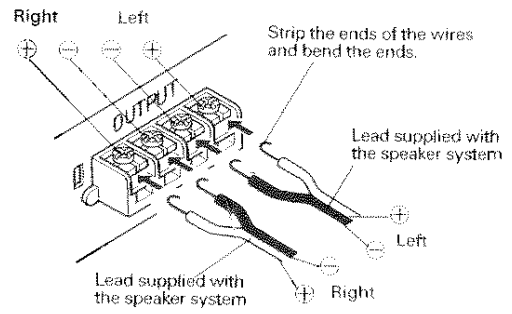

Fig. 1
- This amplifier has a mode select switch to select two-channel output (stereo) or one-channel output (mono). The speaker leads must be connected to suit the mode selected. Connect the speaker leads to the output terminals of the amplifier as shown in Fig. 1 and 2, paying attention to the polarities (+ and -), channels (right and left), and lead colors.